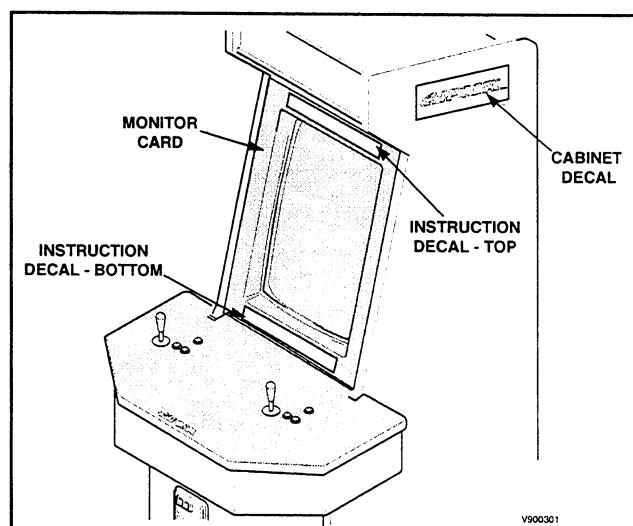

**FIGURE 4**
18. Install the joysticks on the control panel as shown in Figure 4.